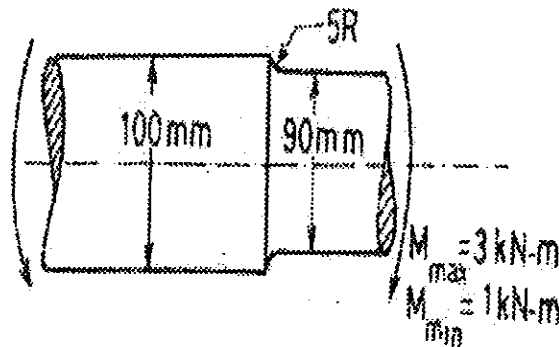

Figure-1
- Q.3** A beam of circular section reduces in dia. from 100 mm to 90 mm over a transition radius of 5.0 mm shown in figure-1. The beam is subjected to a bending moment which fluctuates between M_{\min} 1 kN-m to $M_{\max} = 3$ kN-m. If beam is made in steel with following properties $S_u = 480$ MPa, $S'_e = 210$ MPa, show if beam is safe or not. Assume beam is ground & working temperature is 45 °C.